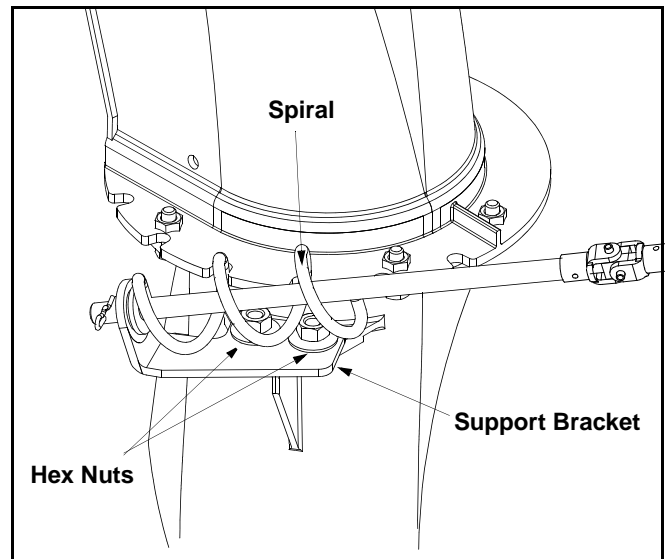

Figure 24
- Loosen, but do NOT remove the two hex nuts which secure the support bracket to the snow thrower housing. See Figure 24.